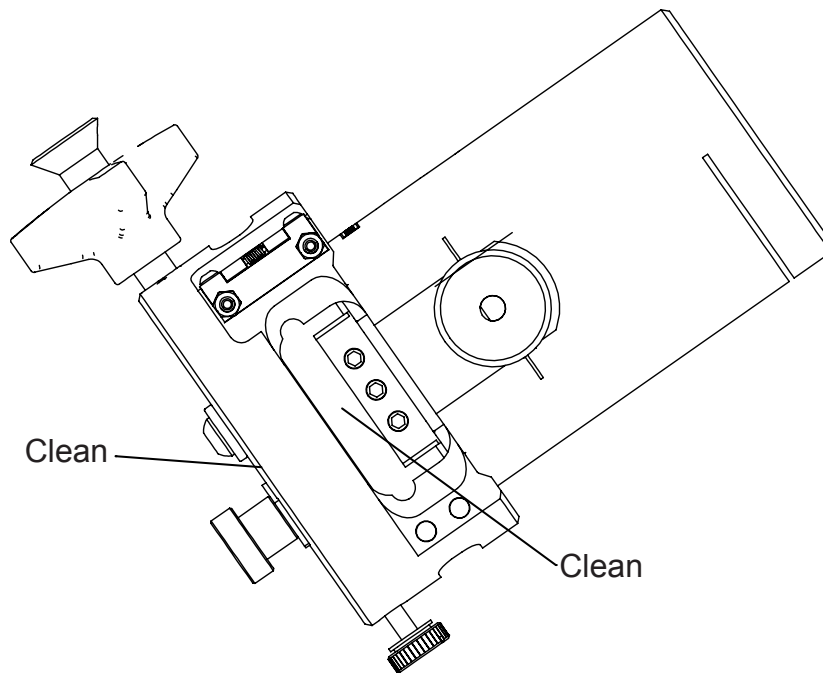

Figure: 3. Sites to Clean
- Clean and Coat components with a light film of oil prior to use. Refer to Fig. 3.